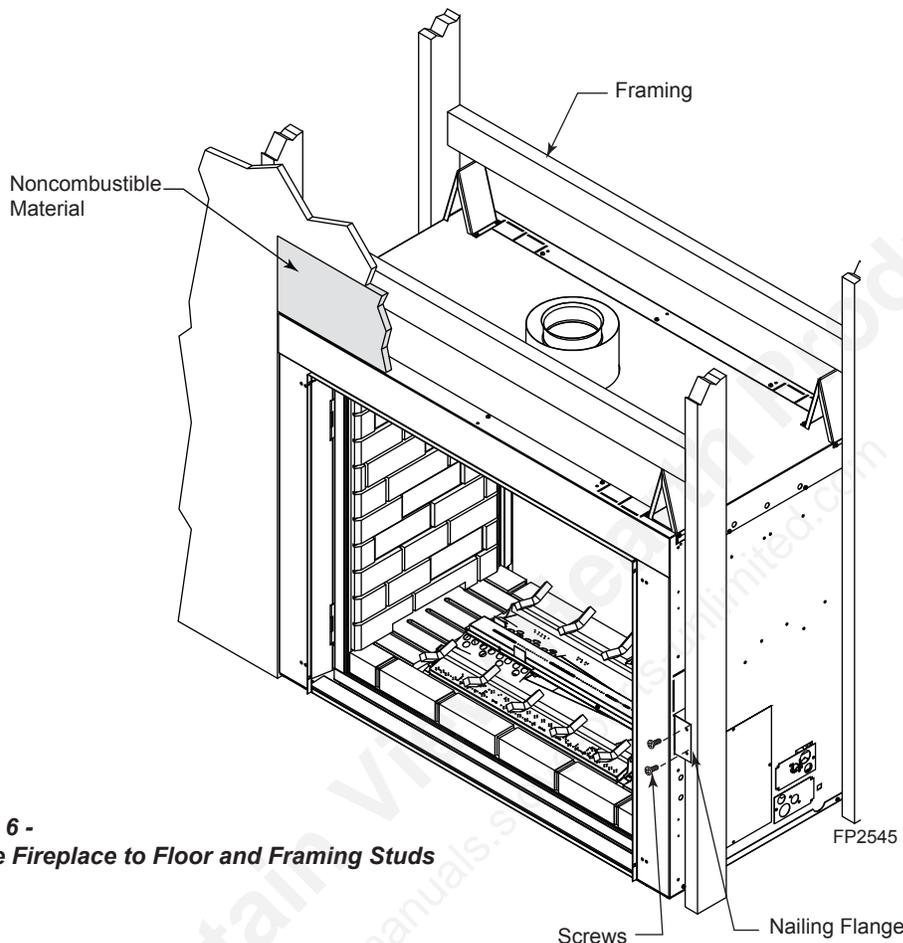

Figure 6 -
The fireplace must be secured to the floor and/or to framing studs as shown in *Figure 6*. Use four (4) wood screws or masonry/ concrete screws to secure fireplace to the floor. Use four (4) screws to attach fireplace to framing. The side brackets or nailing flanges are designed to accommodate two wall boards thicknesses, 1/2" or 5/8".
A 6" area above fireplace must be a noncombustible material across top of fireplace. *Figure 6*